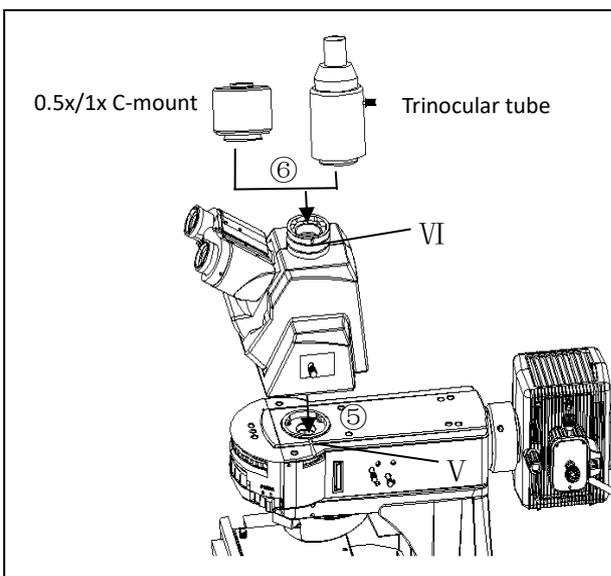

Fig.6
4-2-5 Install observation head and C-mount of photographic accessories 0.5X/1X (Fig.6)
The observation head is loaded into the circular dovetail of the microscope according to the path (Num⑤) shown in ordinal shape in figure 6, then tighten the screw of V with universal wrench to fasten observation head.
The interface of photographic attachment 0.5x / 1x C-mount is loaded into the interface of the three-item attachment of observation header according to the path specified in the serial number ⑥ in figure 6, then tighten the screw of VI with universal wrench to fasten photo attachments.